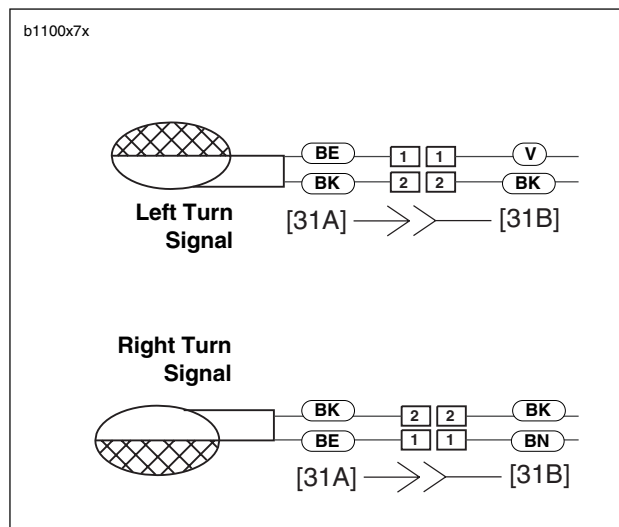

Figure 7-49. Front Turn Signal Connections
1. See Figure 7-49. Disconnect bullet connectors on turn signal wires.
- Install turn signal (1) using lockwasher (2) and fastener (3). Tighten fastener to 25-28 **in-lbs** (2.8-3.2 Nm).
- Attach bullet connectors on turn signal wires as shown in Figure 7-49.